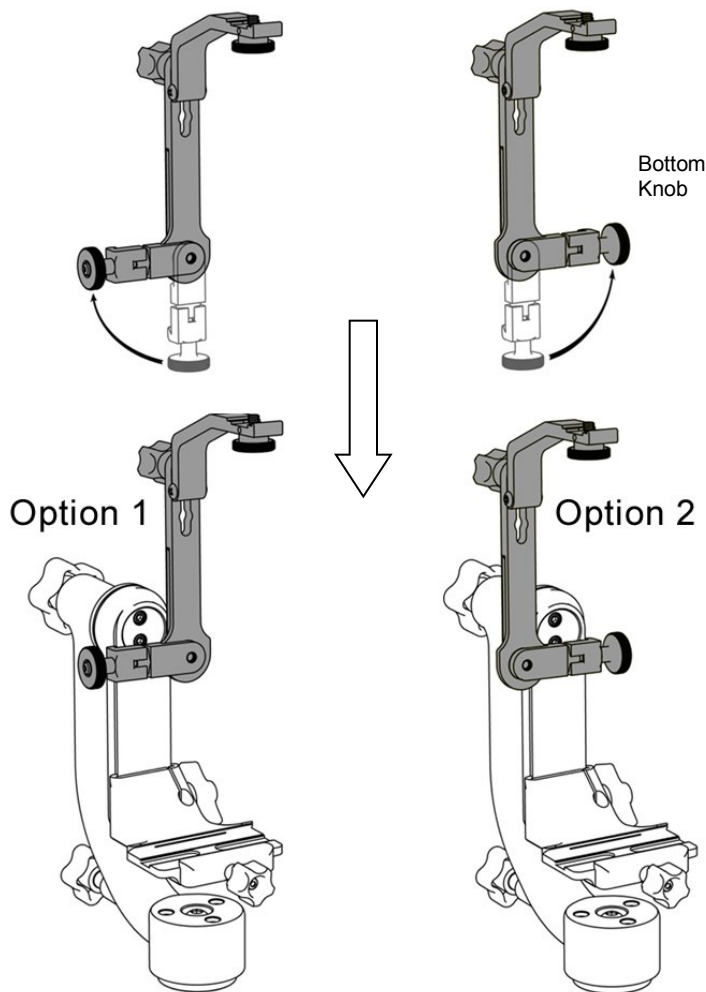

Figure 2
2. Pivot the moving jaw with the knob to either side, perpendicular to the upright portion of the M-9 module (*Fig. 2*).
3. Place the bracket above the swing arm. Choose the configuration that feels best to you and allows you to comfortably access the focusing ring on your lens (*Fig. 2, Option 1 & 2*).